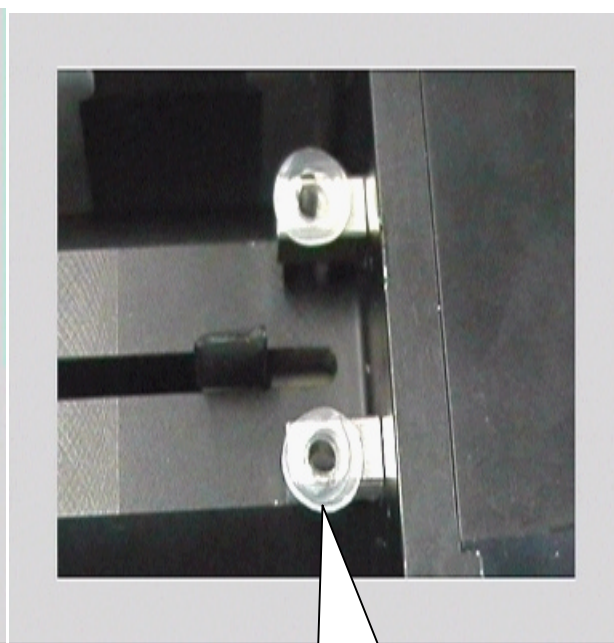

Fig. 8
- d) Pay particular attention to the spacer washers placed between the opto sensor and the support (Fig.8)